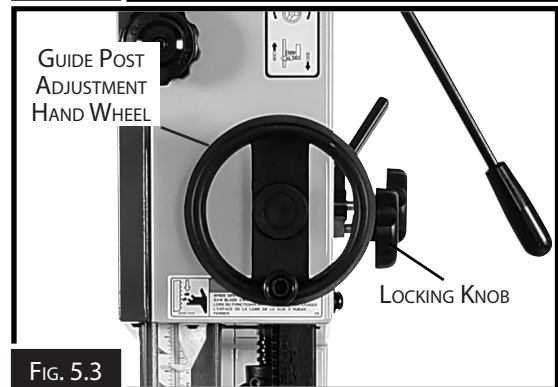

FIG. 5.3
**Guide Post Adjustment Knob:** Raises and lowers the blade guide post. (Fig. 5.3)
**Guide Post Locking Knob:** Locks the blade guide post. (Fig. 5.3)